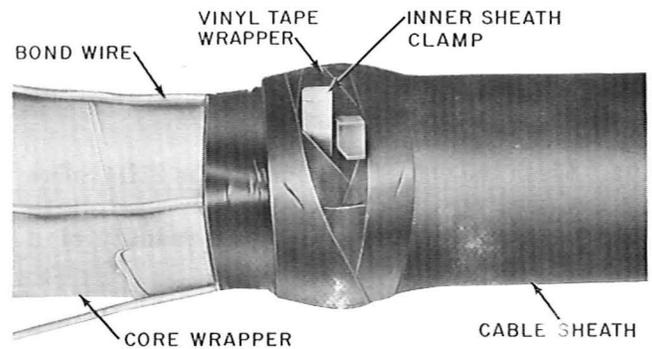

Fig. 17—Vinyl Tape over Tabs
7.09 Bind down the ends of the tabs with vinyl tape. Do not cover the ears of the inner sheath clamp. This will hold the inner sheath clamp in proper position (Fig. 17).